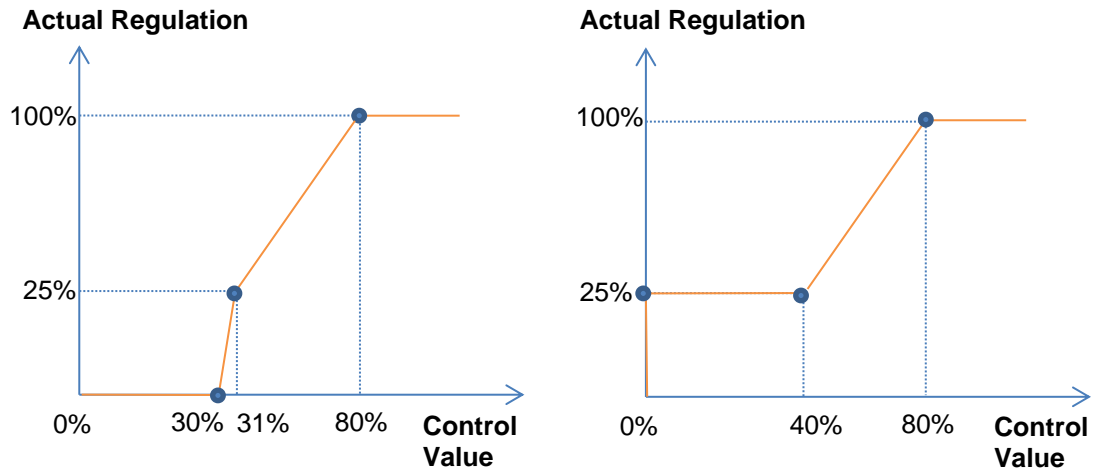
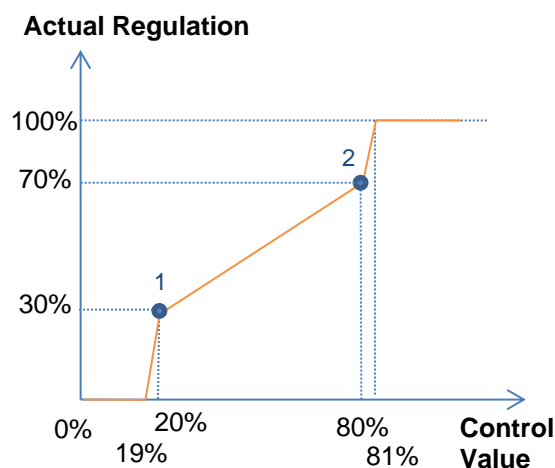

Figure 14. Custom Control Curves.
Figure 15. Characteristic Curve – Values Out of Range.
In case the first and last points do not correspond (respectively) to values 0% and 100%, the characteristic curve will be defined as follows (see Figure 14 and Figure 15):
- For **control values lower than that of the first point**, the actual regulation value will be 0%. For example, in Figure 15 all control values under 20% imply a regulation value of 0%.
- For **control values greater than that of the last point**, the actual regulation value will be 100%. For example, in Figure 15 all control values over 80% imply a regulation value of 100%.